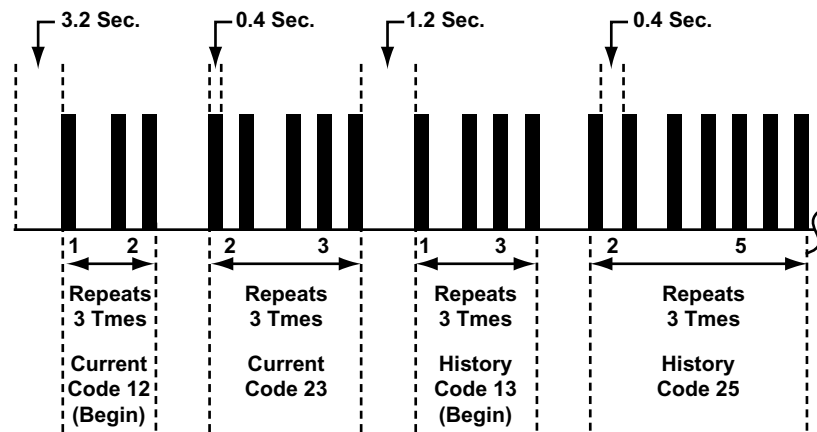

Figure 4-40 Acura ABS Code Type 5a
- Type 5a, see Figure 4-40 and Table 4-10 on page 35